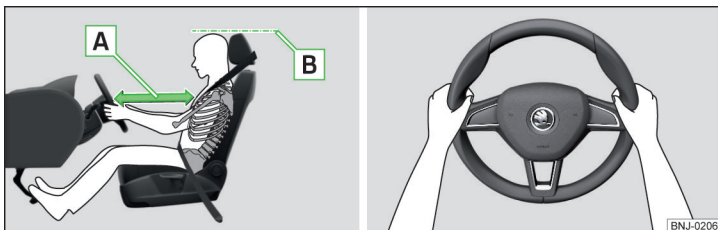

Fig. 15 Correct seated position for the driver/correct steering wheel position
- ✓ Adjust the steering wheel so that the distance between the steering wheel and your chest is at least 25 cm » Fig. 15 - A.
- ✓ Adjust the headrest so that the top edge of the headrest is, where possible, at the same level as the upper part of your head (not for seats with integrated headrests) » Fig. 15 - B.
- When driving, hold the steering wheel with both hands firmly on the outer edge in the "9 o'clock" and "3 o'clock" position » Fig. 15. Never hold the steering wheel in the "12 o'clock" position or in any other way (e.g. in the middle, inner edge of the steering wheel or similar). Otherwise, you could sustain serious injury to the arms, hands and head if the airbag is activated.
- ✓ Adjust the head restraint so that the top edge of the head restraint is at the same level as the upper part of your head » Fig. 15 on page 19 - **B** (not for seats with integrated headrest).
- ✓ Adjust the head restraint so that the top edge of the head restraint is, where possible, at the same level as the upper part of the head » Fig. 15 on page 19 - **B**.